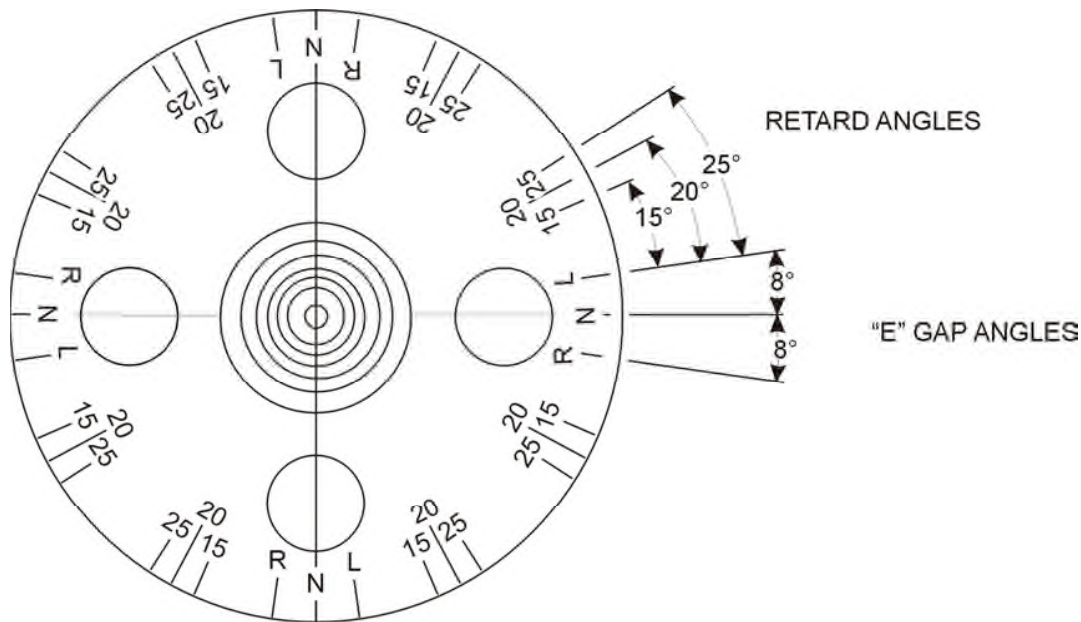

Figure 5-2. Timing Marks on Rotating Magnet
- (1) *Main Breakers* – Connect the timing light negative lead to any unpainted surface of the magneto. Connect one positive lead to the left main breaker terminal and the second positive lead to the right main breaker terminal.
- (2) Back the engine up a few degrees and again bump forward toward number one cylinder firing position while observing timing lights. Both lights should go out to indicate opening of the main breakers, when the timing pointer is indicating within the width of the “L” or “R” mark. If breaker timing is incorrect, loosen breaker screws and correct. Retorque breaker screws to 20 to 25 in.-lbs.
- (3) *Retard Breaker* – Remove timing light leads from the main breaker terminals. Attach one positive lead to retard breaker terminal, and second positive lead to the tachometer breaker terminal, if used.
- (4) Back the engine up a few degrees and again bump forward toward number one cylinder firing position until pointer is aligned with 15° retard timing mark. See Figure 5-2. Retard breaker should just open at this position.